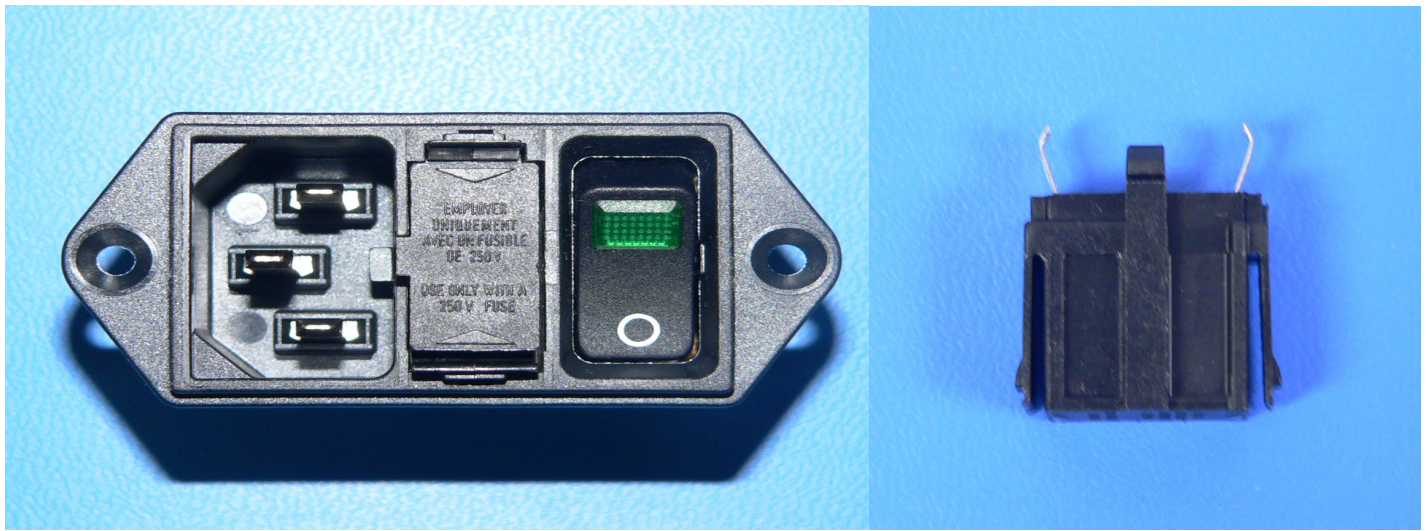

FIGURE 19: FUSE BOX TABS
2. Using the needle nose pliers, carefully extract the fuse box from the power entry module by squeezing down on the fuse box tabs in the slots as shown in Figure 19.